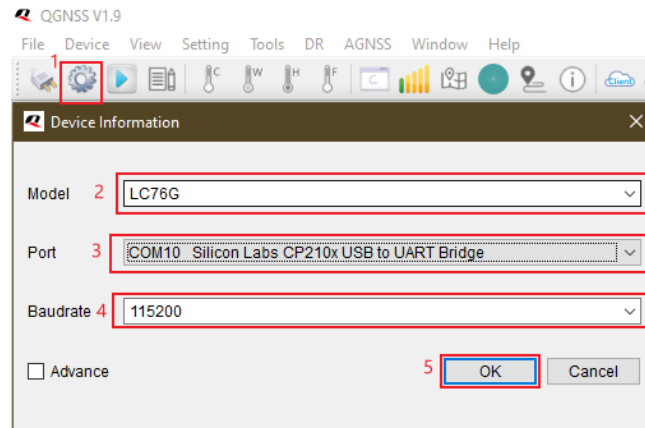

Figure 14: Device Information
Step 1: Open QGNSS tool and click  to access the “Device Information” window as shown in Figure 14: Device Information.
Step 5: Click “OK” as shown in Figure 14: Device Information.